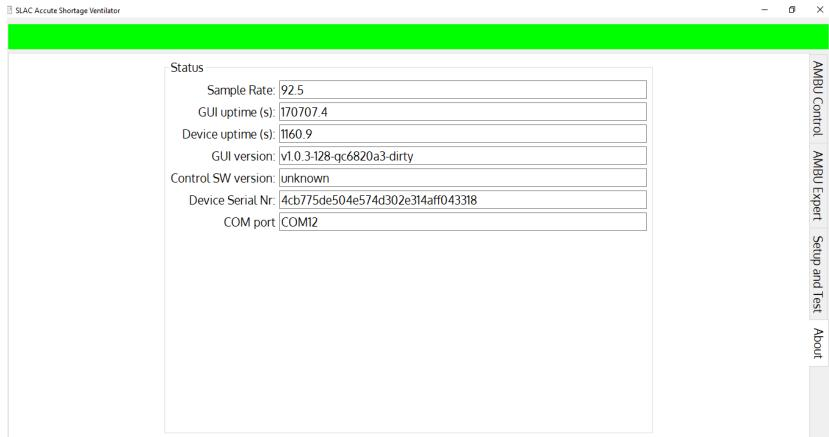

Figure 11: The About page of the GUI.
Figure 11 shows the ASV GUI. The ASV can operate in Volume Controlled Assist Control (VC-AC) mode or Pressure Controlled Assist Control (PC-AC) mode. In both modes, the Respiration Rate (RR) and the Inspiratory Time can